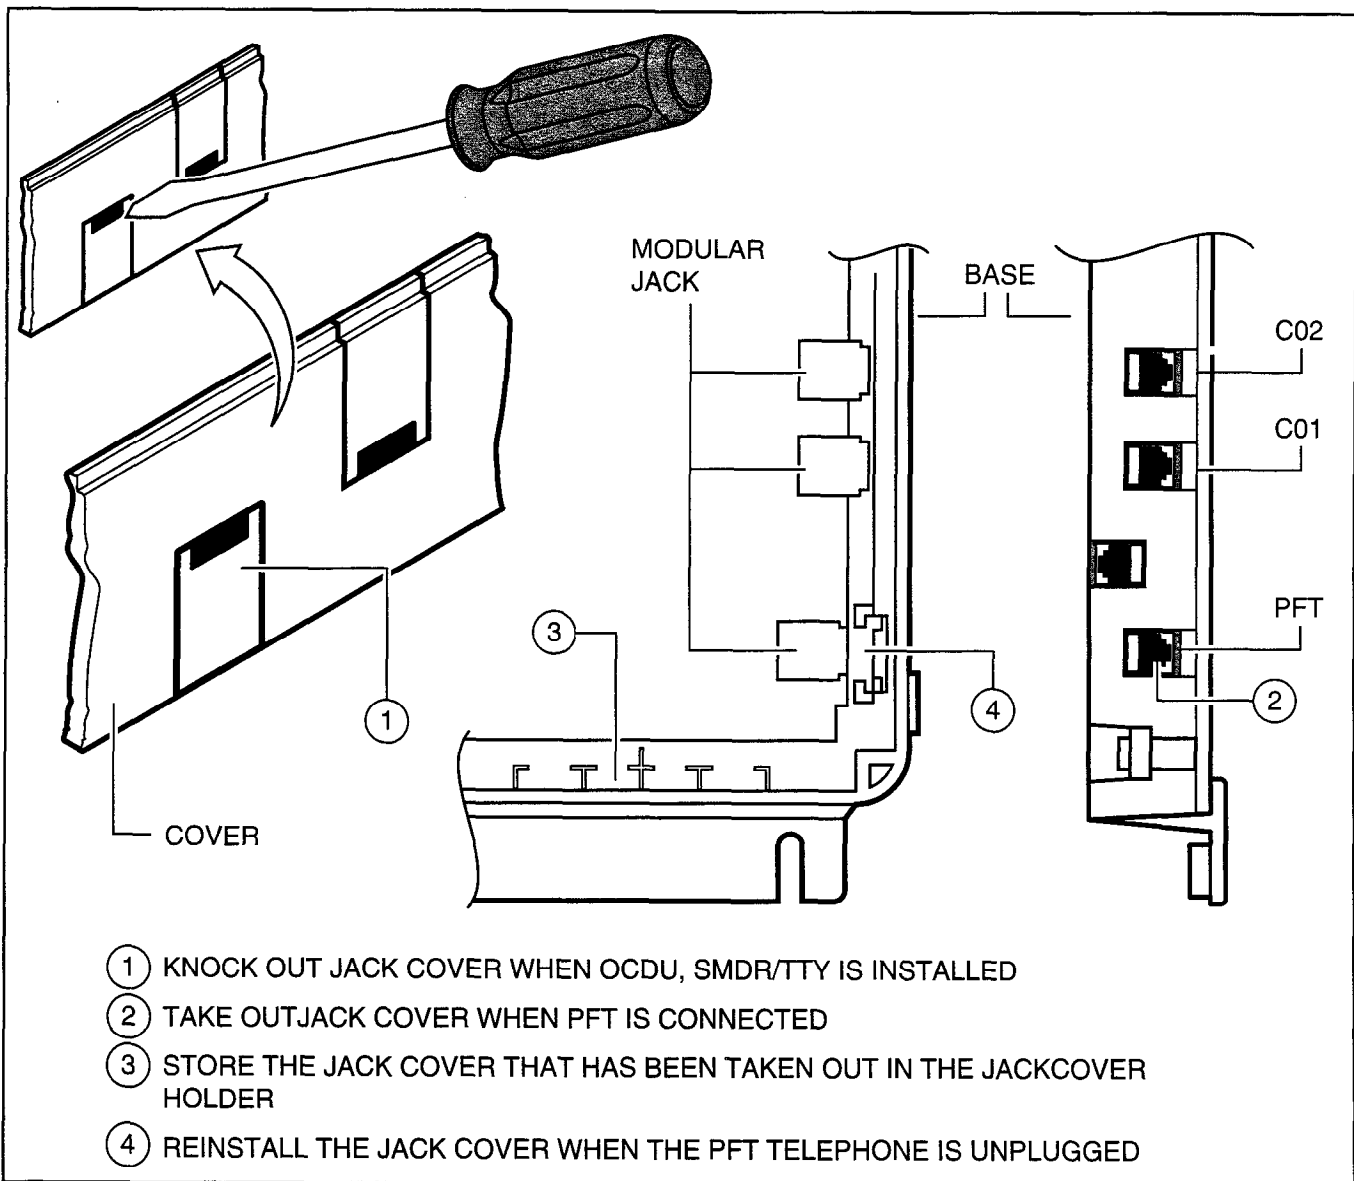

FIGURE 4-9
- 5) Connect the Frame Ground (FG) lead from the QCDU to the screw nearest the QCDU located on the system Frame Ground bar.
- 6) Remove the "knock-out" from the KSU cover **CO3** or **CO4** access slot, and store the "knock-out" in the slots provided in the KSU base (Figure 4-9).